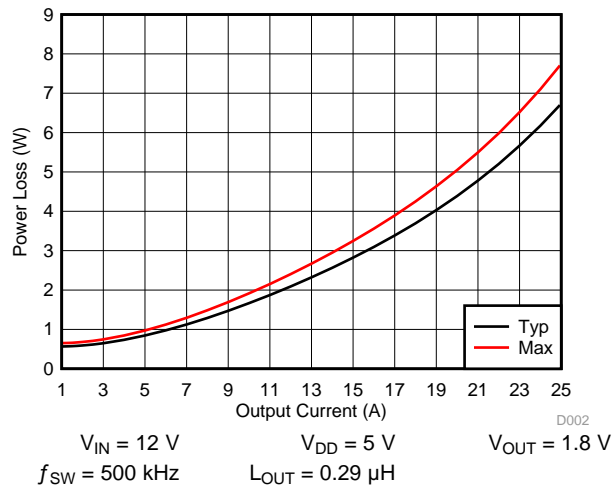
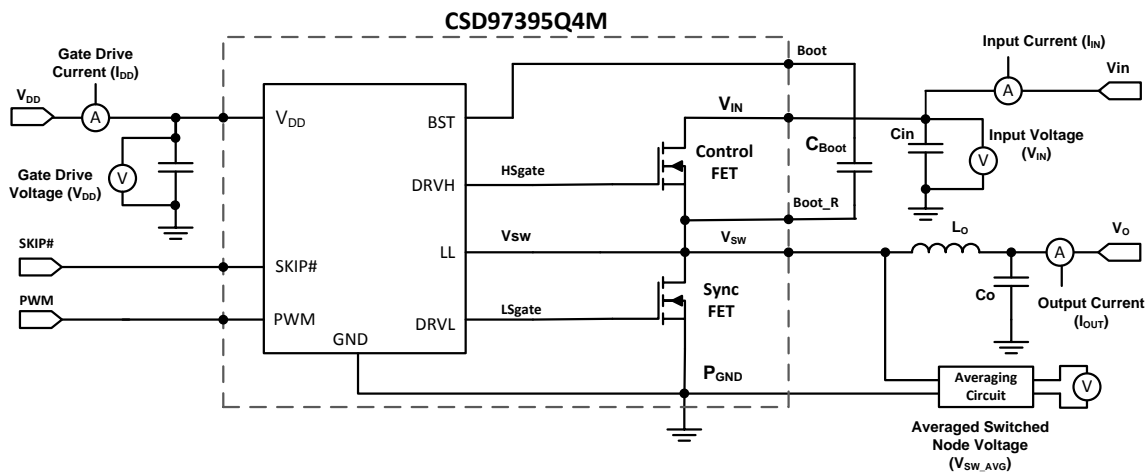

Figure 4. Power Loss vs Output Current
Figure 14. Power Loss Test Circuit
MOSFET centric parameters such as $R_{DS(ON)}$ and Q_{gd} are primarily needed by engineers to estimate the loss generated by the devices. In an effort to simplify the design process for engineers, Texas Instruments has provided measured power loss performance curves. Figure 4 plots the power loss of the CSD97395Q4M as a function of load current. This curve is measured by configuring and running the CSD97395Q4M as it would be in the final application (see Figure 14). The measured power loss is the CSD97395Q4M device power loss which consists of both input conversion loss and gate drive loss. Equation 1 is used to generate the power loss curve.
The power loss curve in Figure 4 is measured at the maximum recommended junction temperature of $T_J = 125^\circ\text{C}$ under isothermal test conditions.
- Typical Power Loss at 15 A = 2.8 W (Figure 4)